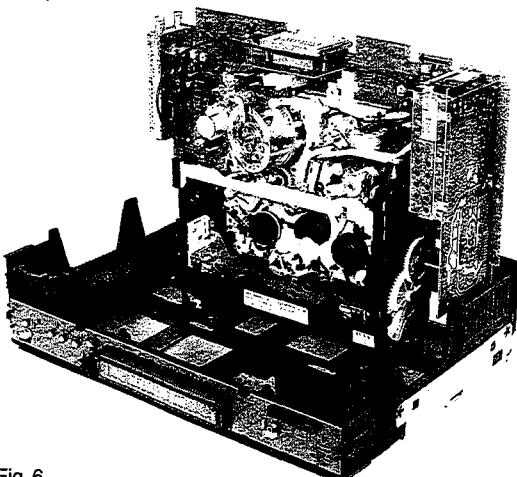

Fig. 6
- Turn the motherboard-drive combination and place in the service position (Fig. 6) if necessary. The unit can be operated in this position.